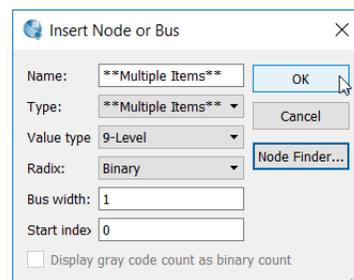
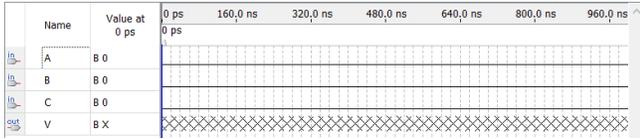

Figure 24. Adding multiple nodes.
Figure 25. Waveform after inserting nodes.
7. We will be brought back at the Insert Node or Bus box as shown in Figure 24, click **OK**. By stage we will see voting inputs **A**, **B** and **C** all goes LOW at time 0ns to 100ns while voting output “**V**” is the output to be determined as shown in Figure 25.